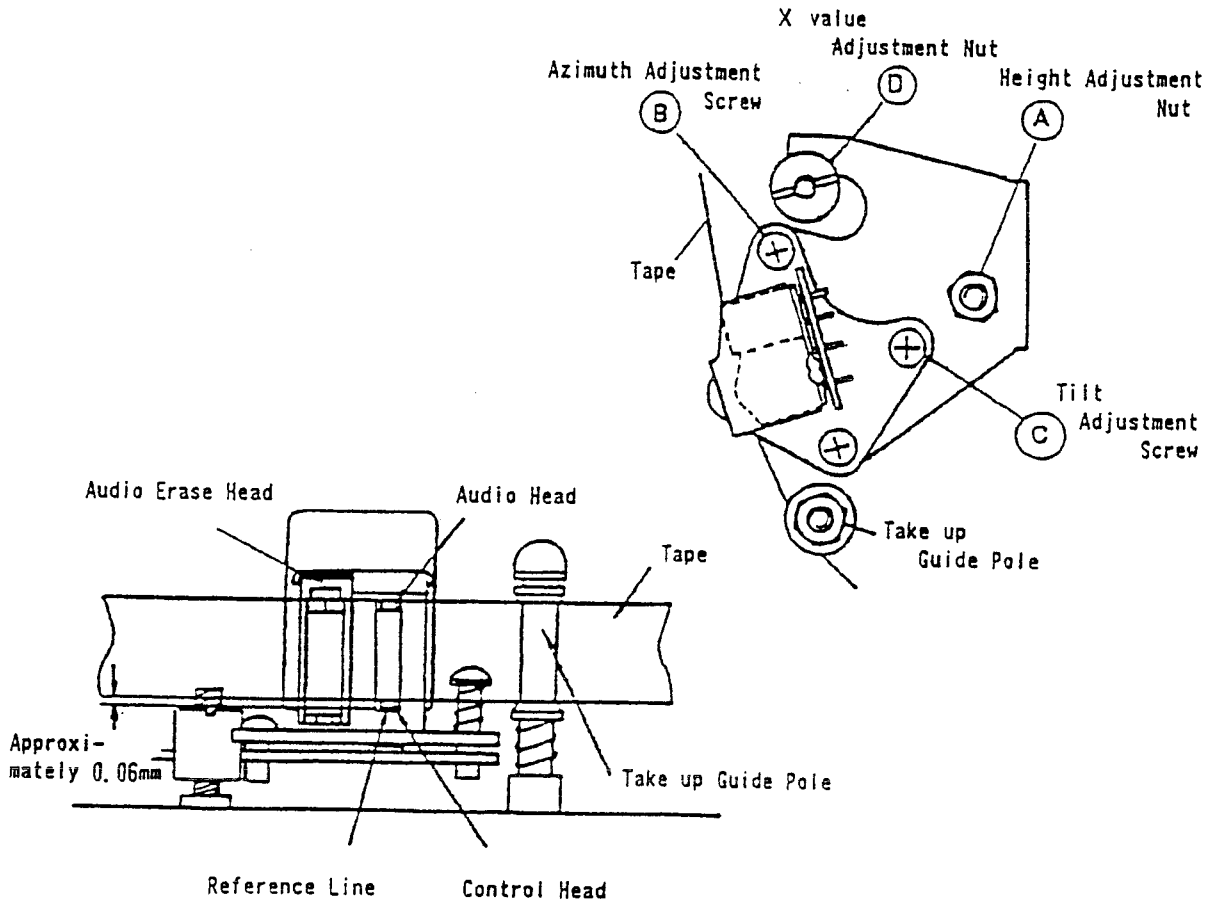

Fig. 2-7
2. Adjust the height of the edge of the audio track on the audio control head by using the height adjustment nut (A) and the tilt adjustment screw (C) so that the tape transport is smooth at the take-up guide pole. Align the audio control head height. (Refer to Fig. 2-7.)
2. Confirm that the tape running between the take-up guide roller and the audio control erase head has no slack. If the tape has slack, take it up by turning the tilt adjustment screw  $\textcircled{D}$ . (Refer to Fig. 2-7.) Then readjust GUIDE ROLLER HEIGHT in section 2-2 and the  $\times$  value in section 2-4.
3. After confirming on the oscilloscope that a 1 kHz audio signal is being output by playing back F6-A test tape, adjust the height adjustment nut  $\ominus$  so that the AC voltmeter's reading is brought to its maximum level. (Refer to Fig. 2-7.)
4. Adjust the azimuth adjustment screw  $\textcircled{A}$  so that the AC voltmeter's reading is brought to its maximum level. (Refer to Fig. 2-7.)
1. After confirming on the oscilloscope that an audio signal is being output by playing back F6-N test tape, adjust the azimuth adjustment screw ④ so that the AC voltmeter's reading or oscilloscope waveform is brought to its maximum level (Refer to Fig. 2-7).
**Note:** Fix the screw ④ with lock paint after readjustment (Refer to Fig. 2-7).